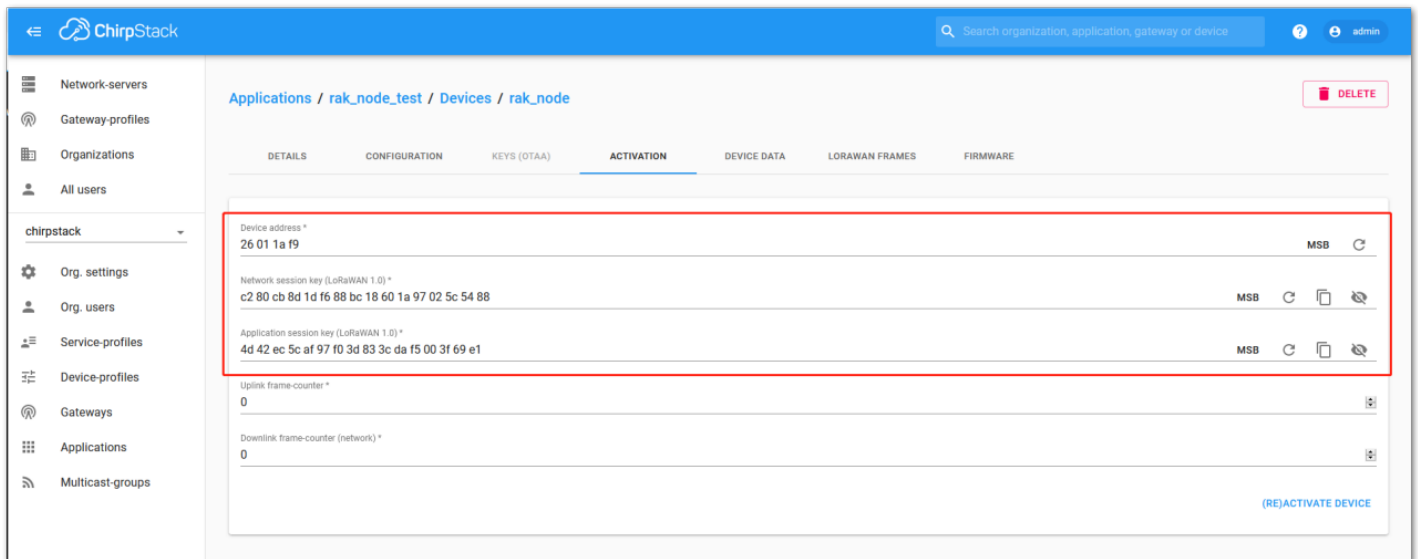

**Figure 209:** ChirpStack Console, Configuring a Device
1. During the registration of a new device, if you select “**DeviceProfile\_ABP**”, as shown in **Figure 209**, then the ChirpStack platform will assume that this device will join the LoRaWAN network using the ABP mode.